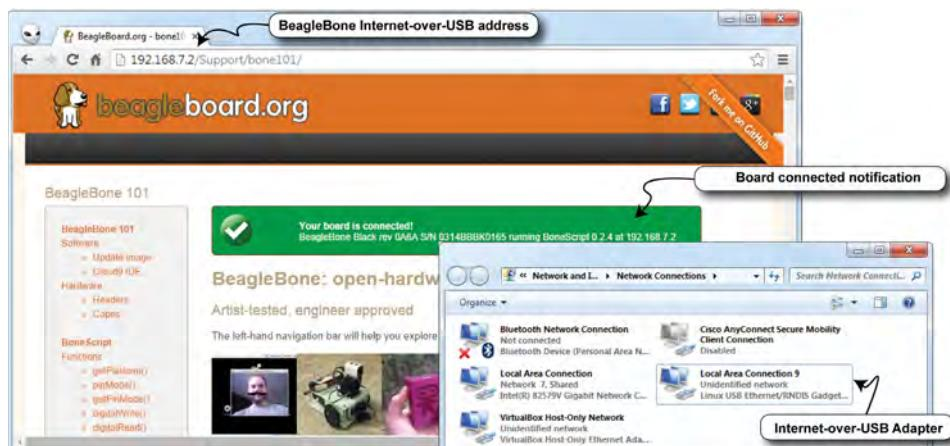

Figure 2-2: Windows Network Connections with Internet-over-USB connection LAN 9, and a web browser connection
For example, if you fully installed the BBB drivers under Windows, you should now have a new network connection (Start > type **view Network Connections**). Figure 2-2 captures a typical Network Connections window under Windows. In this case, “Local Area Connection 9” is the Linux USB Ethernet/RNDIS Gadget. The desktop computer remains connected to your regular LAN, which provides access to the Internet, and to a new “private” LAN that contains only your desktop computer (192.168.7.1) and your BBB (192.168.7.2). You can open a web browser and connect to the BBB’s web server by typing **192.168.7.2** in the address bar, as illustrated in Figure 2-2.
3. In the drop-down list, choose your BBB private LAN (e.g., referring back to Figure 2-2, this is "Local Area Connection 9"). Click OK.
If all goes well, you will not have noticed any difference at this point and you should be able to reload the web page that is shown in Figure 2-2. The impact of the last two steps can only be appreciated when you open a terminal connection to the BBB. A link to a video guide for configuring network sharing for Mac OS X is available at tiny.cc/ebb202.
Once you have the IP address, you can test that it is valid by entering it in the address bar of your web browser—192.168.1.116 in the example above. Your browser should display the page that is shown in Figure 2-2.